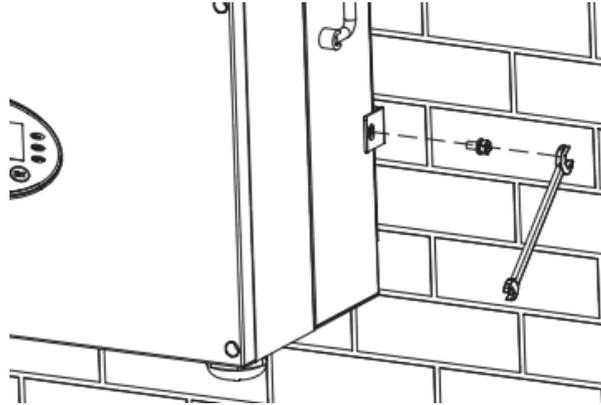

Figure4.13 Installation of M6X16 bolts
- (6) Ensure the inverter is installed properly and tighten the M6X16 bolts into the screw holes on the left and right side of inverter(tightening torque is  $4N\cdot m$ ). As shown in Figure 4.13.